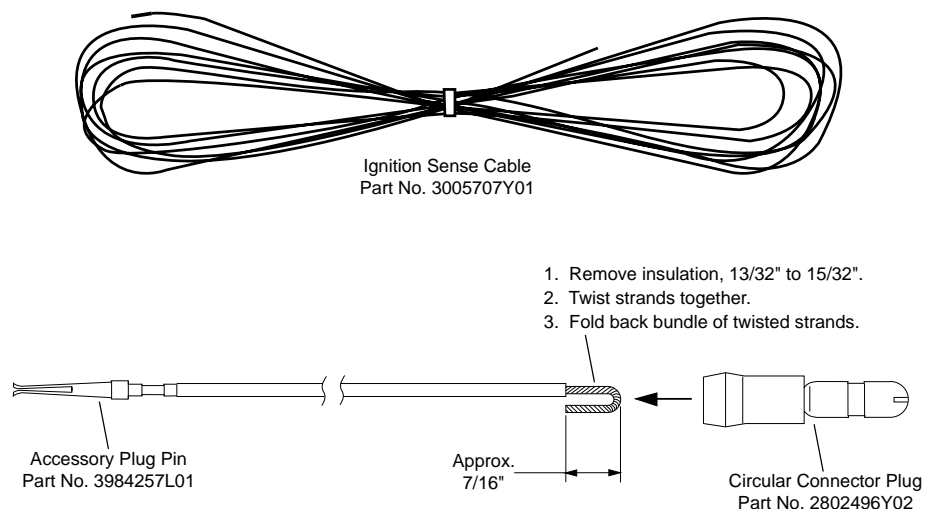

Figure 45 Ignition Sense Cable
1. Refer to Figure 45. Route ignition sense cable as required from radio to area in vehicle where it is to be connected to vehicle power source. Be careful to route the cable in such a way that it will not be subjected to abrasion, stretching, sharp bends, or other types of injury that may lead to its eventual failure.